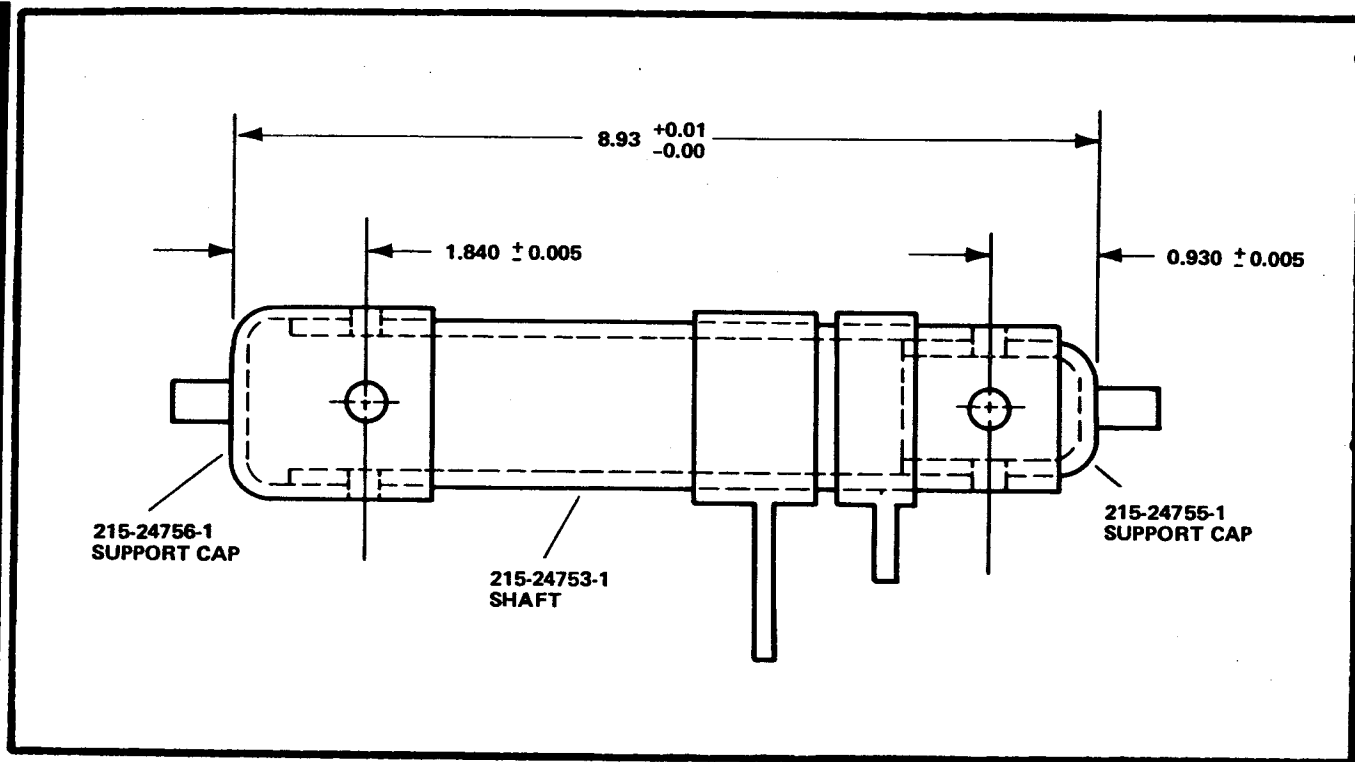

Figure 1-19A. Support Cap Assembly, Part No. 215-24082
c. Place new support cap in VEE block and drill pilot hole through cap at location shown in figure 1-19A.
d. Slip cap over shaft, Part No. 215-24753-1. Maintain the 8.93 inch dimension (shown in figure 1-19A) and line ream hole through cap and shaft to 0.1900 (+0.0020, -0.0005) inch hole diameter.
d. Slip cap inside shaft, Part No. 215-24753-1. Maintain the 8.93 inch dimension shown in figure 1-19A and line ream the hole through cap and shaft to 0.2500 (+0.0020, -0.0005) inch hole diameter.